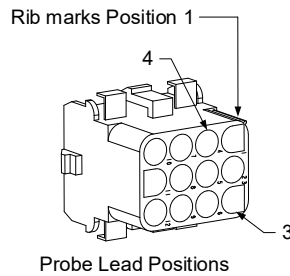

Figure 42
- Insert the temperature probe leads into the 12-pin wiring harness connector (see Figure 42). The red lead goes into position 3 and the white into position 4.